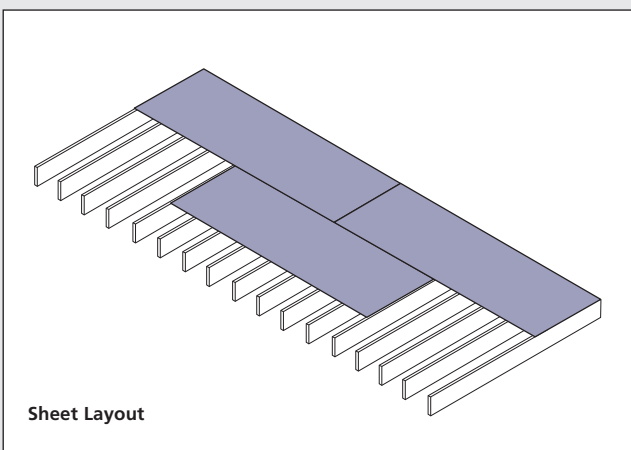

Figure 3
- Panels must be laid across the joists (see Figure 3).
- Sheet end joints should be staggered (see Figure 3).